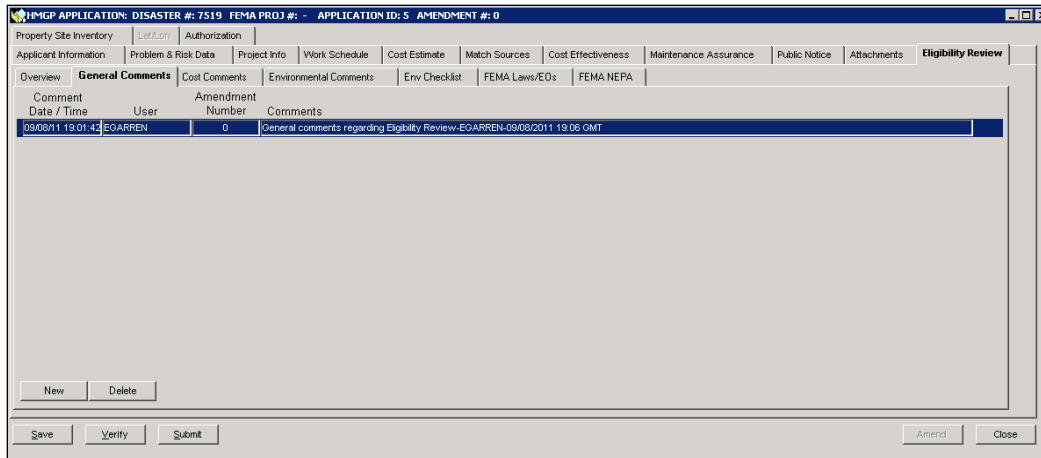

Figure 6-70: General Comments Sub-tab with Comments Added
- c. Enter your comments and click the OK button. The comments you entered are displayed on the **General Comments** sub-tab (Figure 6-70).